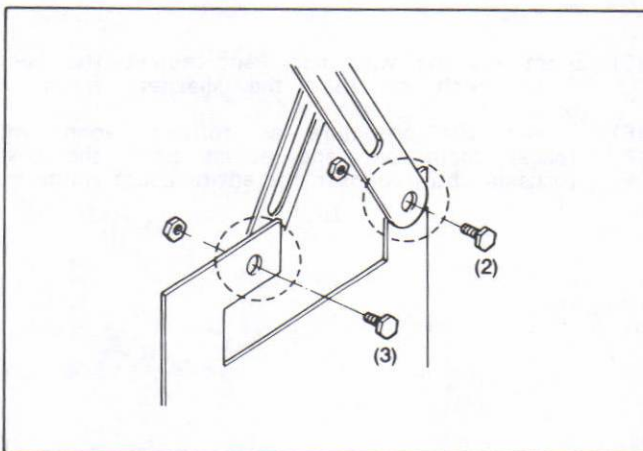

Fig. C4-3
- (2) Mount the Camera Holder Arm (B) to the Camera Holder (D) by screws (2) and (3) as shown in Fig. C4-3.